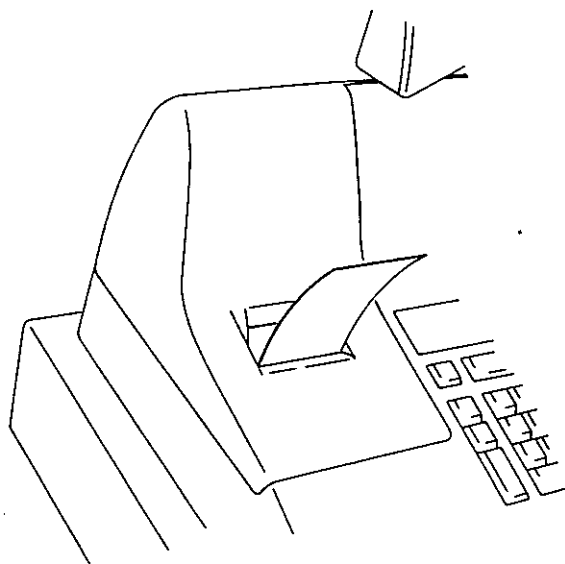

Fig. 6
6) Attach the Receipt Cover with the paper end of the receipt sheet (the upper sheet) coming out of the Receipt Outlet located on the Receipt Cover. (Fig. 6)